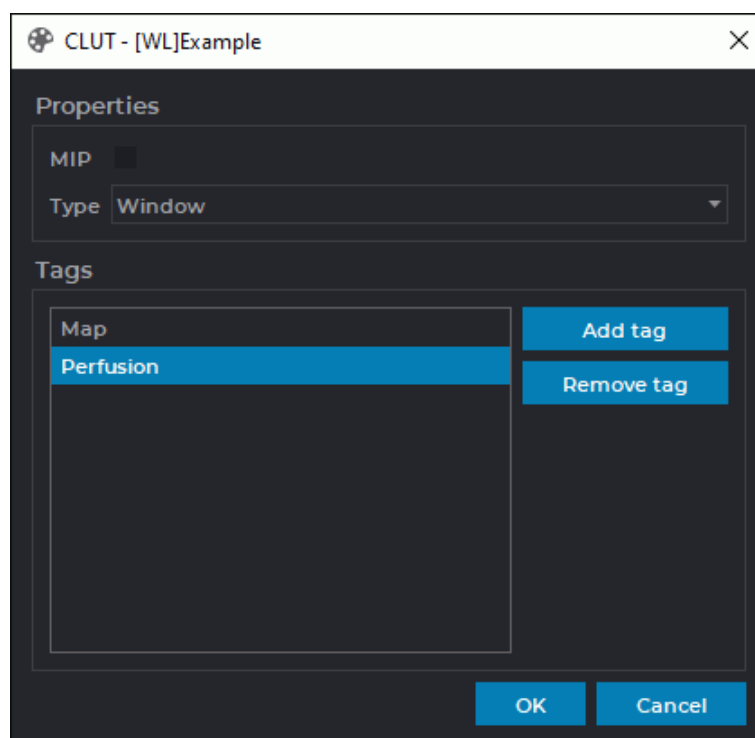

Figure 2.71: CLUT dialog box
8. To assign a group type to the CLUT, click the **Edit CLUT/group**  button at the top of the CLUTs settings panel. In the **CLUT** dialog box (Fig. 2.71), select the group type to which the table belongs from the drop-down list:
- To add the tags that the CLUT should contain, click the **Edit CLUT/group**  button at the top of the CLUTs panel. In the **CLUT** dialog box (Fig. 2.71), click the **Add tag** button and enter the tag name in the input area. To rename a tag, double-click on the tag name, enter the new name and press the **Enter** key on your keyboard. To remove a tag, select it and click the **Remove tag** button.